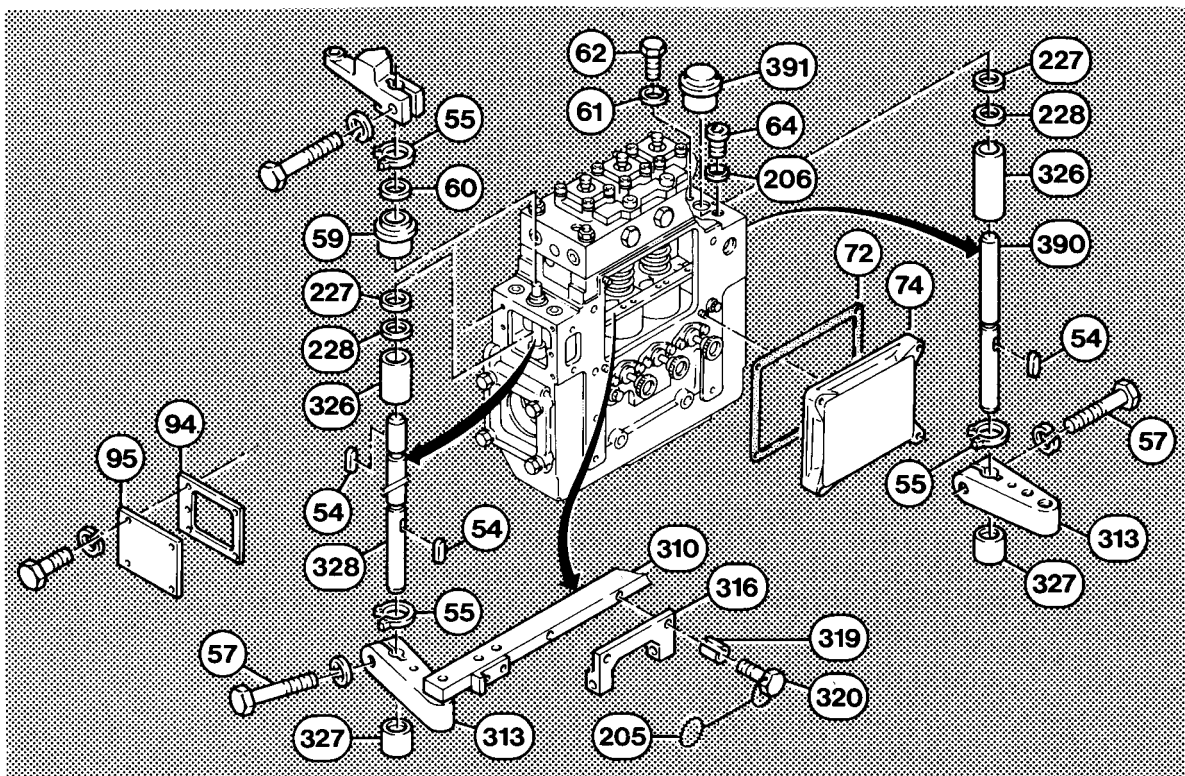

Fig. 2
Remove cover (95) - Fig. 2 - and gasket (94). Then, take down cover (74) with gasket (72). Open lead-seal wire (205), unscrew hex. bolts (320) and carefully withdraw lever (316) from the two clamping bushes (319).